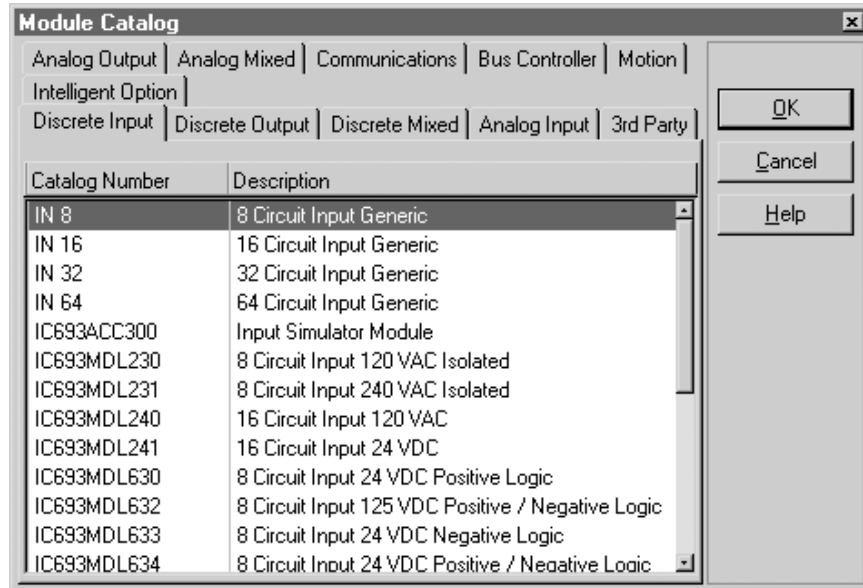

FIGURE 3.2
Step 5: Right click on the highlighted slot and select "Add Module". The following screen appears (Figure 3.2).